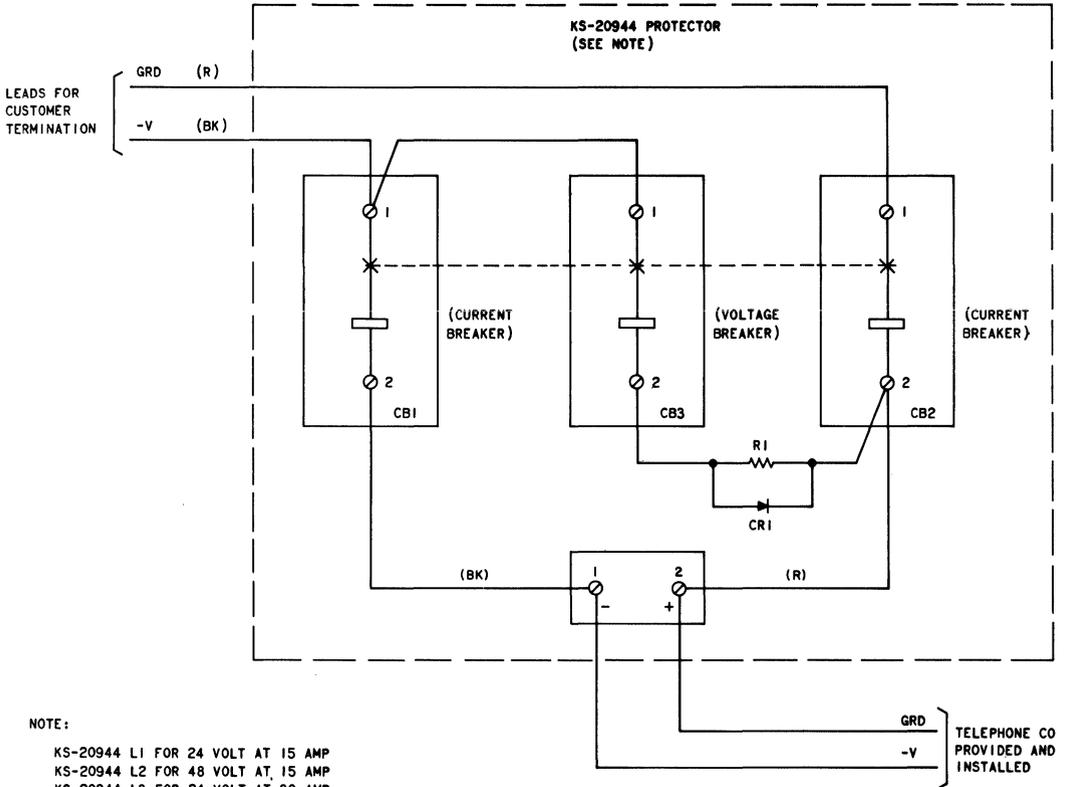

Fig. 8—◆Schematic of KS-20944 Protector◆
◆KS-20944 Protector (Fig. 8)
3.11 Connect as shown in Fig. 8 following local wiring instructions. The customer must connect his power supply to the red (+) and black (-) 16-gauge leads extending from the unit.
### B. KS-20944 Protector (Fig. 8)